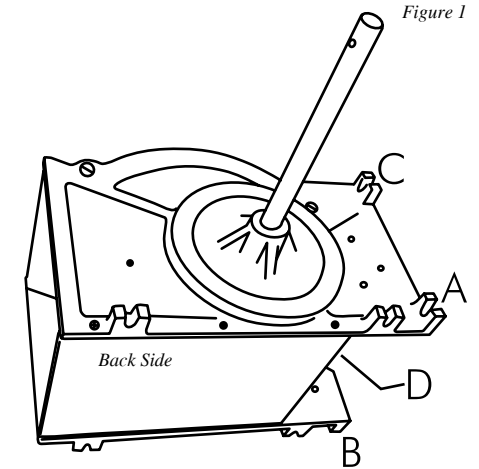

Figure 1
2. Align holes A, B, C & D on the **Mounting Board** with Feet A, B, C, & D (Figures 1 & 2). The side of the **Mounting Board** with the stepped holes should face toward you.